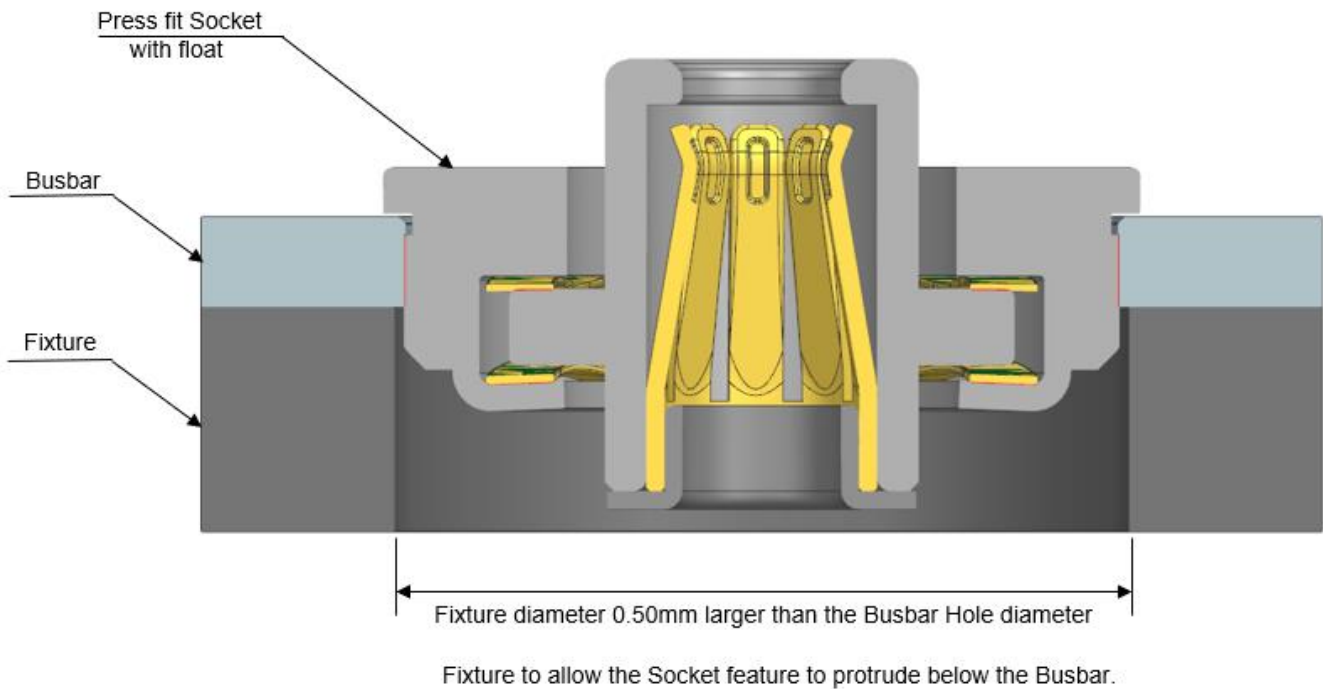

Figure 5.2.1
- a. Fixture should have a hole clearance of 0.50mm with respect to Busbar hole dimension for free flow of socket during press. Refer to below figure 5.2.1.